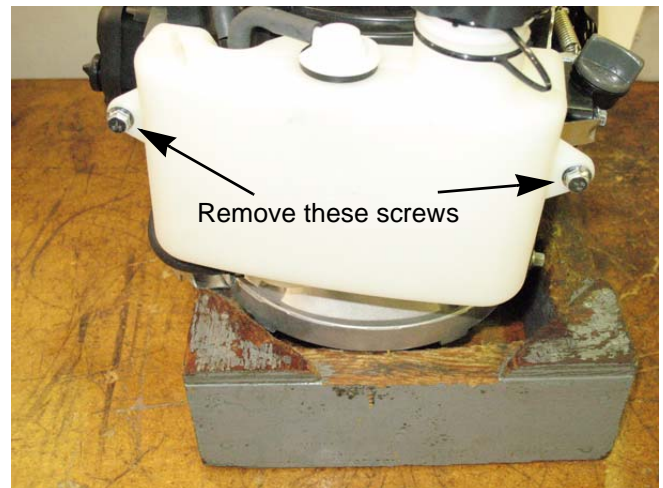

Figure 4.24
4. Remove the top two screws and remove the tank. See Figure 4.24.